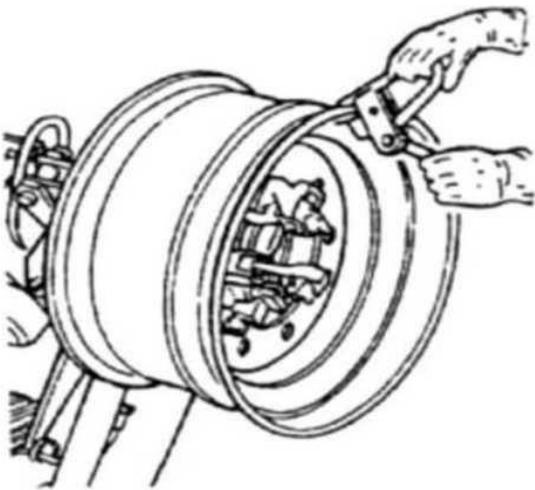

Fig18
- 3) Install the clamp at the highest point of the outer edge of the rim. (fig.18) Make sure that the clamp are firmly in contact with the rim.